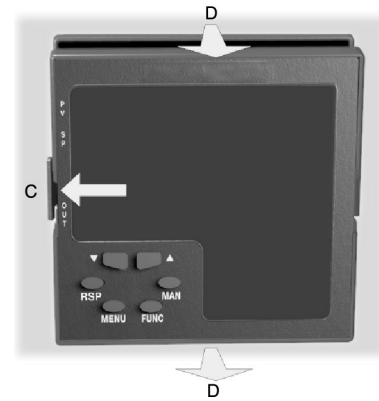

Fig. 2
- While the lock C is maintained out, slide out the instrument (see fig. 2).